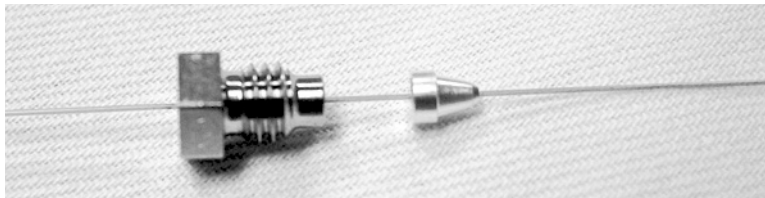

Figure 4 Removed swaging nut
- 4 Remove the swaging nut (Figure 4).